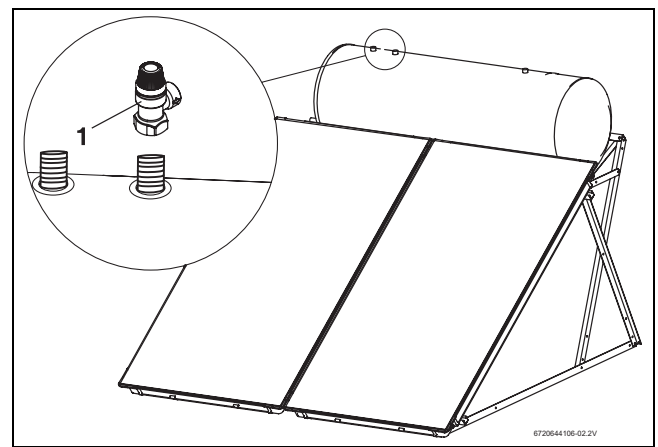

Fig. 58 Installing the solar safety valve
- Install the 250 kPa solar safety valve (Fig. 58, [1]) at the top of the cylinder.